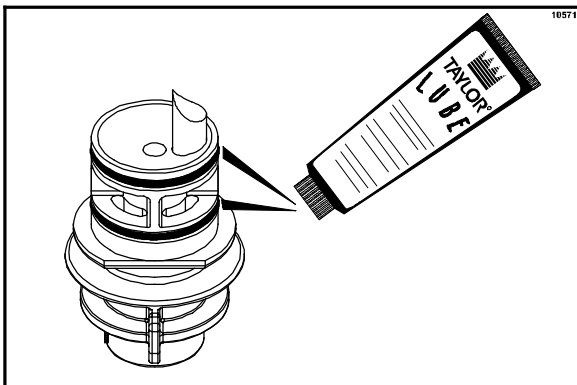

Figure 8
5. Using a small amount of Taylor Lube, lightly lubricate the o-rings on the mixing nozzle. (See Figure 8.)